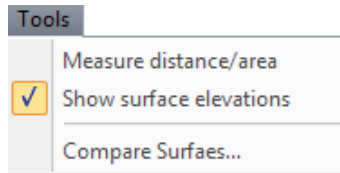

Figure 6-4. Check Elevations to All Surfaces
1. To display the elevation anywhere within the alignment, click **Tools ▸ Show surface elevations** (Figure 6-4).